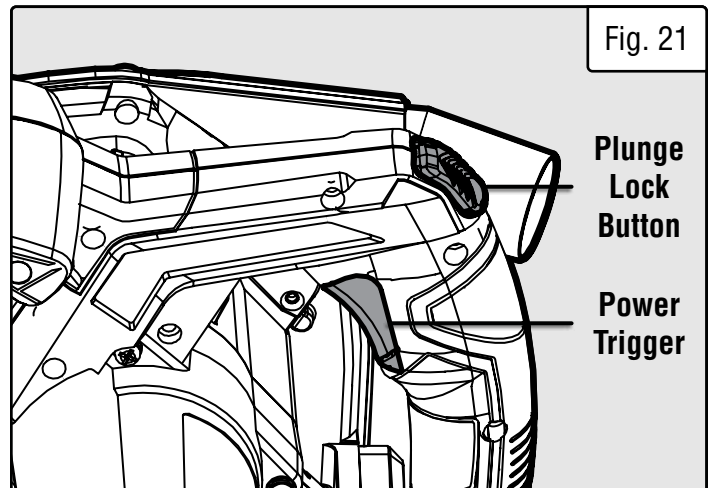

Fig. 21
4. Press the plunge lock button (Fig. 21) to allow the saw to plunge downwards, while not allowing the blade to actually contact the workpiece.
5. Power the saw on by pulling the trigger switch (Fig. 21). Allow it to reach full speed.
4. Plunge the saw downwards and complete the cut, see “Operating the Saw” on page 19. After completing the cut, release the power trigger (Fig. 21) and allow the blade to come to a complete stop before removing the saw from the workpiece.